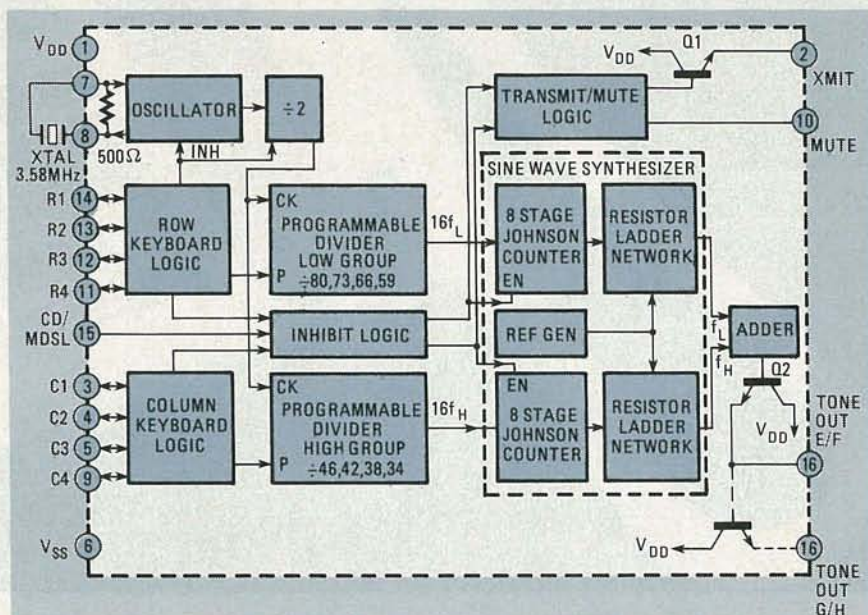

FIG. 2—INSIDE A DTMF ENCODER. The S2559E DTMF generator IC is shown here in block-diagram form.
A block diagram of a typical tone-encoder IC is shown in Fig. 2. The IC illustrated there is a Gould AMI (3800 Homestead Rd., Santa Clara, CA 95051) S2559E. The desired DTMF signals are activated by a twelve-key (3 × 4) or sixteen-key (4 × 4) matrix keypad that is connected directly to the row- and column-input pins of the tone-generator IC. Two major types of keypads are used: One is the standard telephone pushbutton keypad. They are used with IC's that generate tones whenever the corresponding row and column pins are pulled high. As shown in Fig. 3-a, that keypad consists of a series of DPST momentary switches with a common line that simultaneously pulls the corresponding row and column outputs high when pressed. Note that some encoders are active low. For those, the keypad common line is connected to ground. Then, the appropriate row and common outputs are grounded when a key is pressed. The other, and simpler, keypad arrangement is shown in Fig. 3-b. Referred to as a calculator-type or X-Y keypad, it consists of SPST momentary switches and can be built easily. However, it can only be used with tone generators that use calculator-type scanning circuitry to detect switch closures. The S2559E contains such circuitry. Generally, the data sheet of a particular tone encoder will specify the type of keypad required.